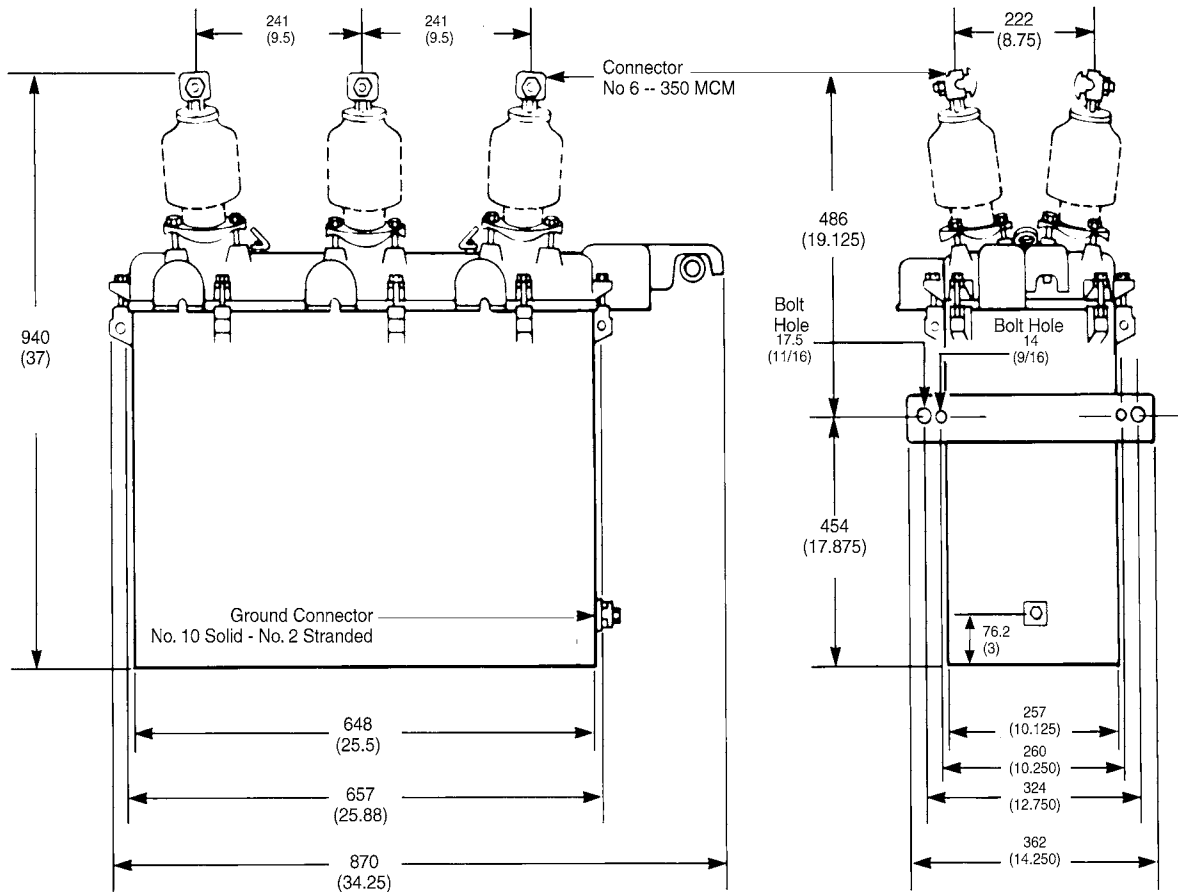

Figure 6. Dimensions of Type 6H and Type V6H reclosers.
7. Ground the recloser. Use two #10 solid wires or a #2 stranded wire to make the ground connection. The ground connector is on the lower portion of the recloser tank. See Figure 6.